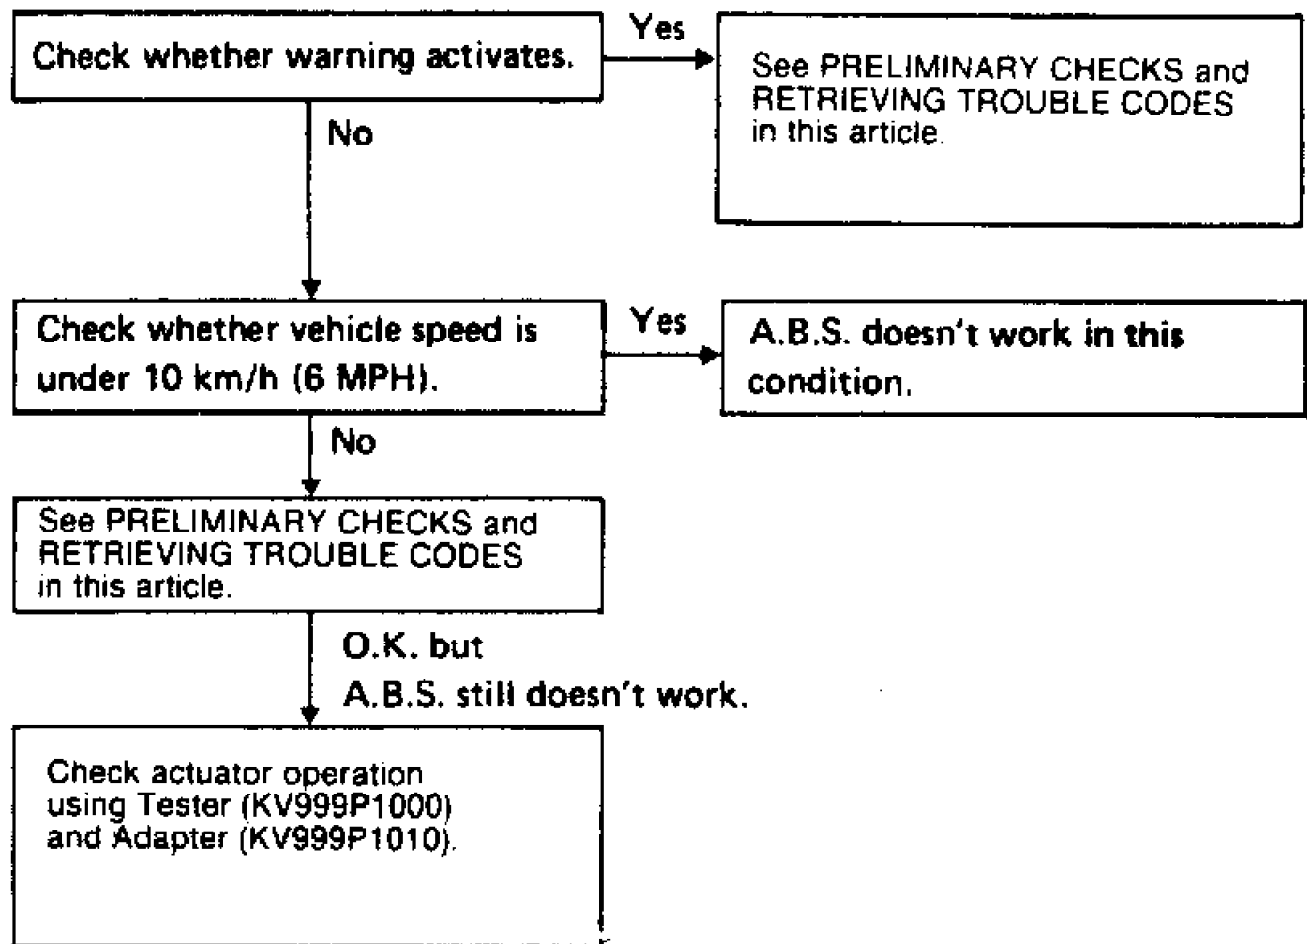

Fig. 11: ABS Does Not Work Trouble Shooting Chart
- ABS Does Not Work - See Fig. 11.